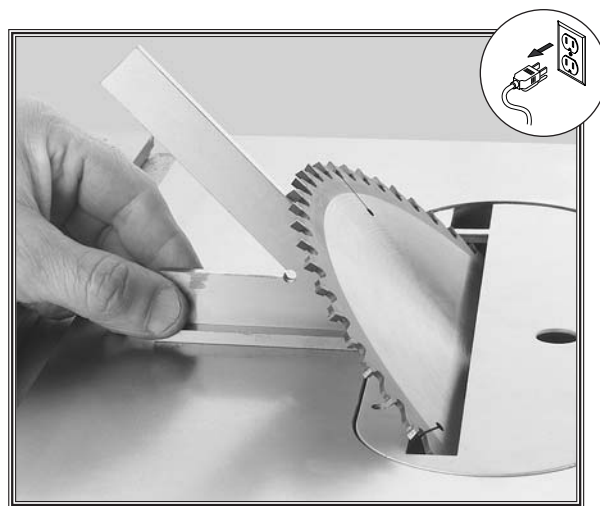

Figure 62. Setting blade to 45°.
4. Tilt the wheel so the blade evenly touches the 45° angle gauge as shown in **Figure 62**.